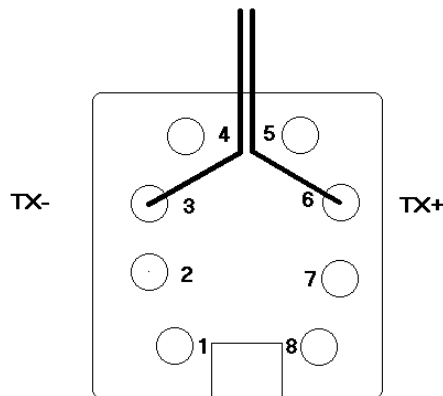

Figure 4
6. Plug the UTP cable into the RS-485 Communication Port, as shown in fig. 4